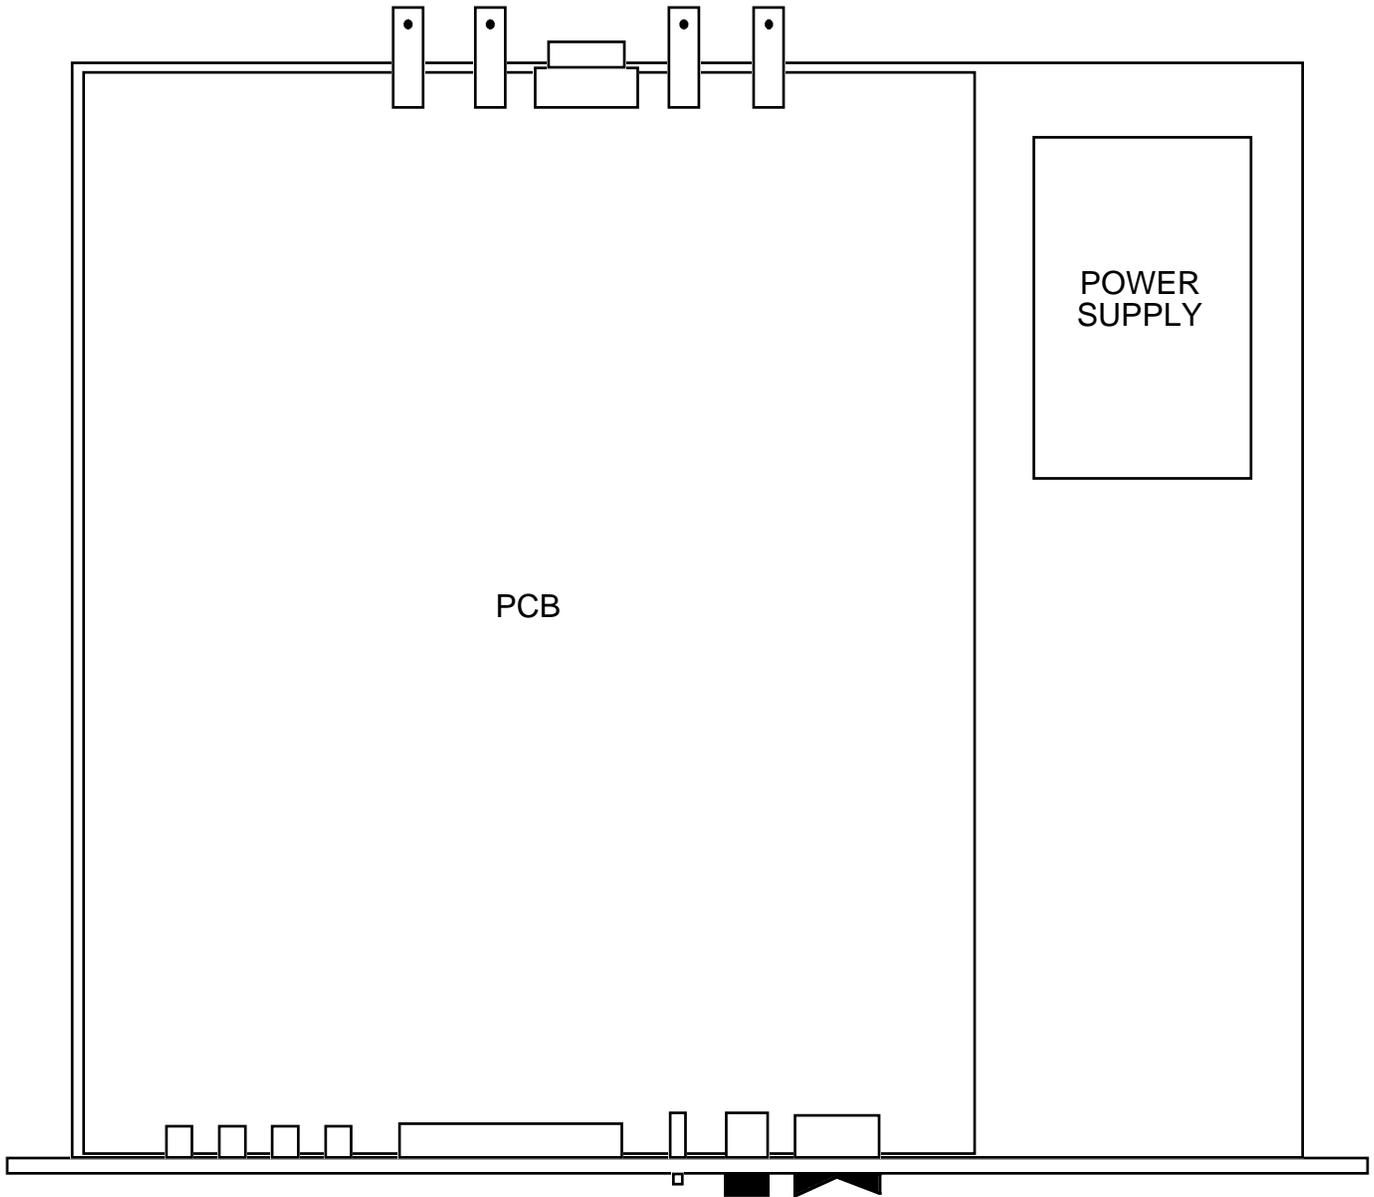

FIGURE 2.0 2083-714A Mechanical Assembly
2.1 Mechanical - The 2083-714A consists of one RF/Controller PCB housed in a 1 RU (1 3/4 inch high) by 16 inch deep chassis. A switching, ± 12 , +24, +5 VDC power supply provides power for the assemblies. The 2083-714A can be secured to a rack using the 4 holes on the front panel but must be supported by a bracket on the bottom. Figure 2.0 shows how the 2083-714A is assembled.